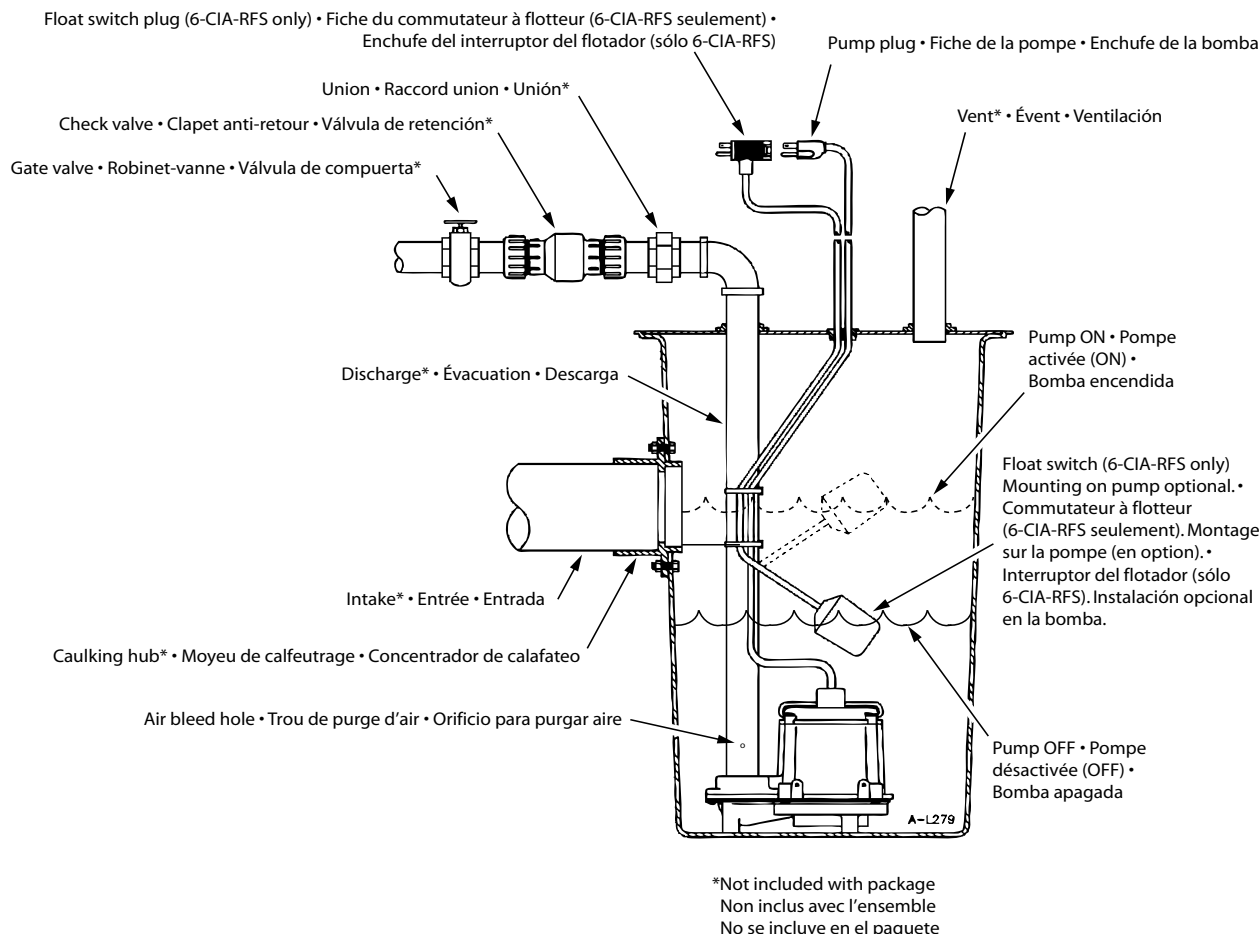

Figure 2 - Typical Installation • Installation Typique • Instalación Típica
1. Test pump by running water into sump. Fill sump to normal ON level and allow pump to remove water to the normal OFF level (Figure 2).